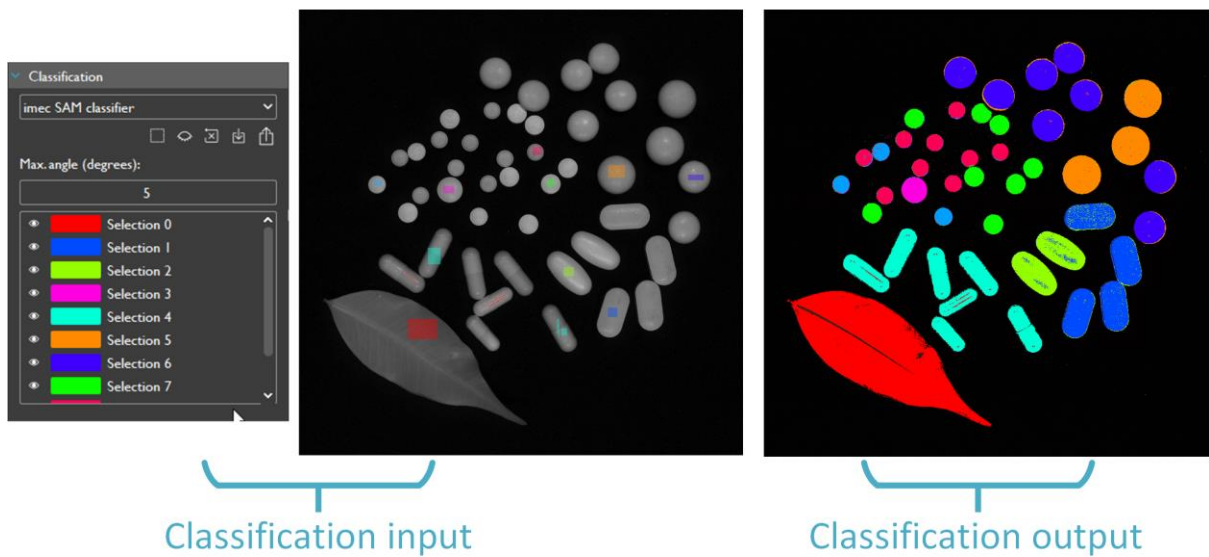

Figure 94 Illustration of the input and output of classification using imec SAM classifier
Step 4 - Train the classifier by clicking on  icon. This will also automatically apply the trained model on the selected cube and display the classified image (see Figure 94).